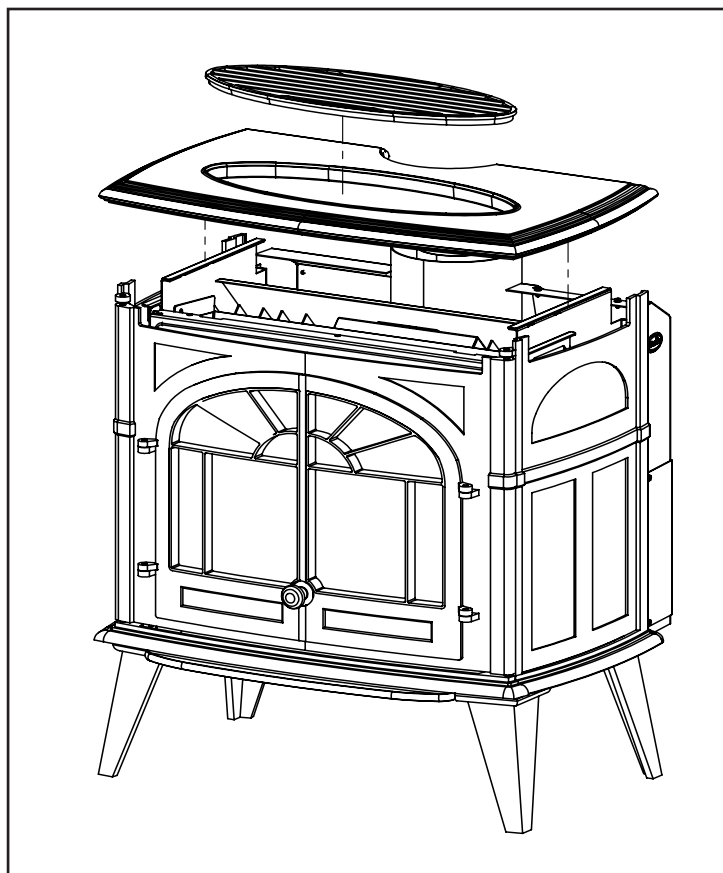

Figure 39: Removal of Stove Top
1. Carefully remove the trivet and the stovetop. Place on a soft surface as not to damage the porcelain finishes (see Figure 39).